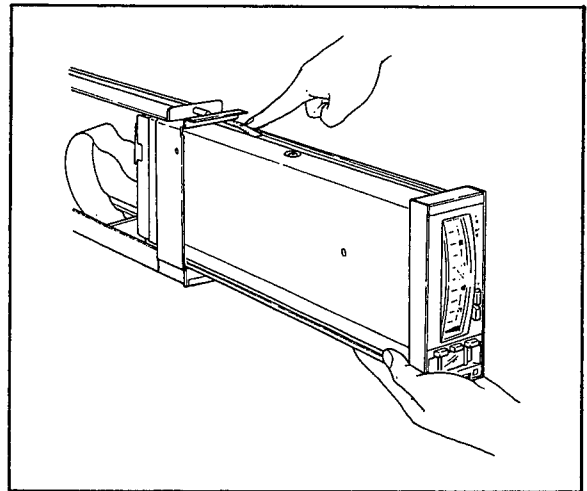

Figure 5-11. Stopper Spring.
- b. While pressing down the stopper spring on the top of the internal unit, insert the unit into the housing. Insure that the internal unit is installed in its correct position. See Figure 5-11.
(4) Terminal Cover Installation.